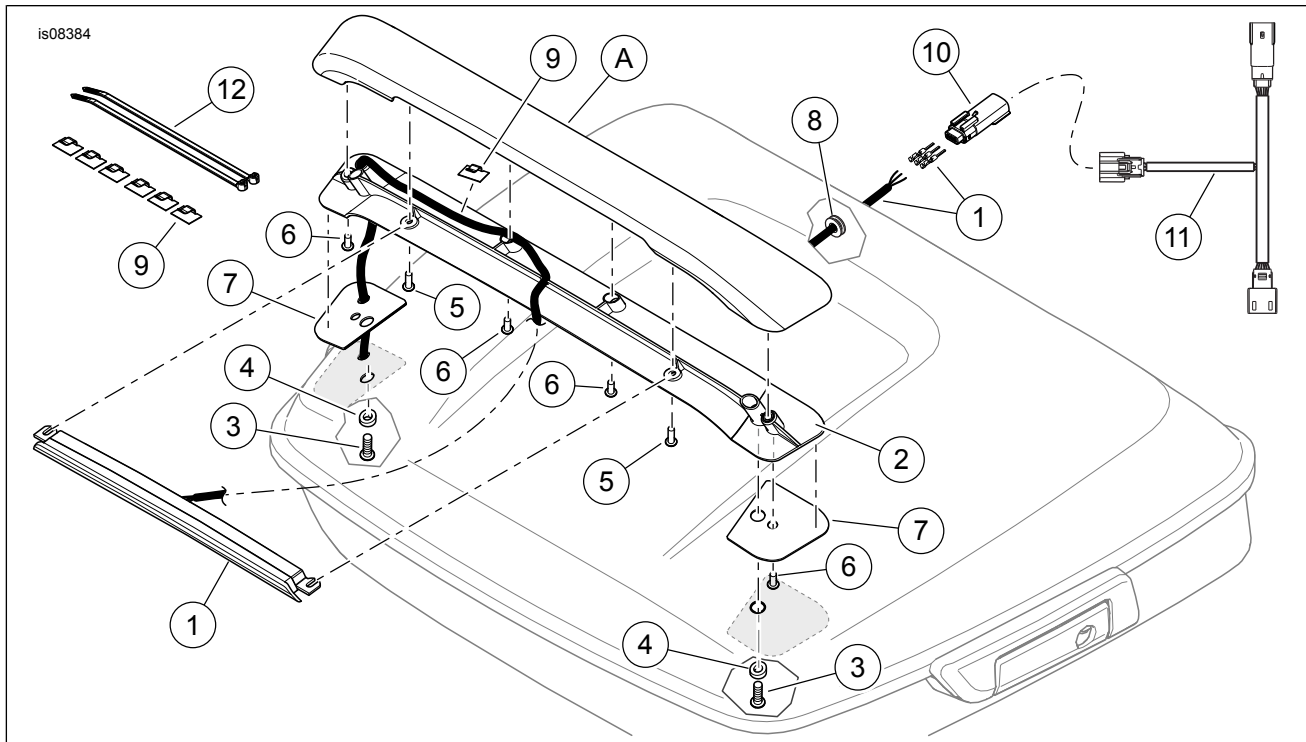

Figure 3. Service Parts, Tour-Pak Spoiler and Auxiliary Rear Light Kit
4. See Figure 3. Temporarily mount the spoiler base (2) to the Tour-Pak cover with the beveled washers (4) and larger screws (3). Allow washers to rotate into alignment on the underside of the lid. **DO NOT** fully tighten screws.
1. See Figure 3. Get the spoiler base, auxiliary light assembly (1) and an adhesive-backed wire clip (9) from the kit. Feed the light wiring through the base wiring hole on the left side.
- a. Assemble the base and light to the cover with two longer socket head cap screws (5) as shown. **DO NOT** fully tighten.
- b. Install the four shorter screws (6) in the remaining holes, but **DO NOT** fully tighten.
3. See Figure 3. Install a grommet (8) from the kit into the newly drilled wiring hole.
6. See Figure 3. Get the three-way Molex pin housing (10). See the service manual appendix. Insert the spoiler wires into the pin housing:
7. Get the spoiler auxiliary lighting wire harness (11).